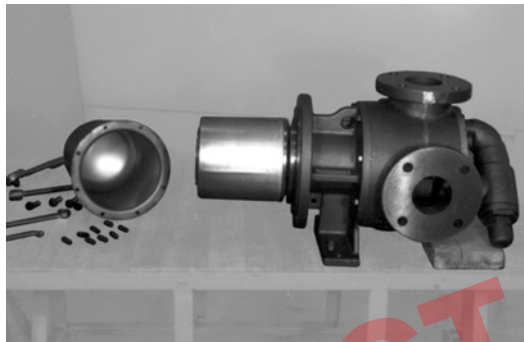

FIGURE 12
6. Remove the (8) 0.375" Allen head capscrews holding the canister in place then slide the canister off. See Figure 12.